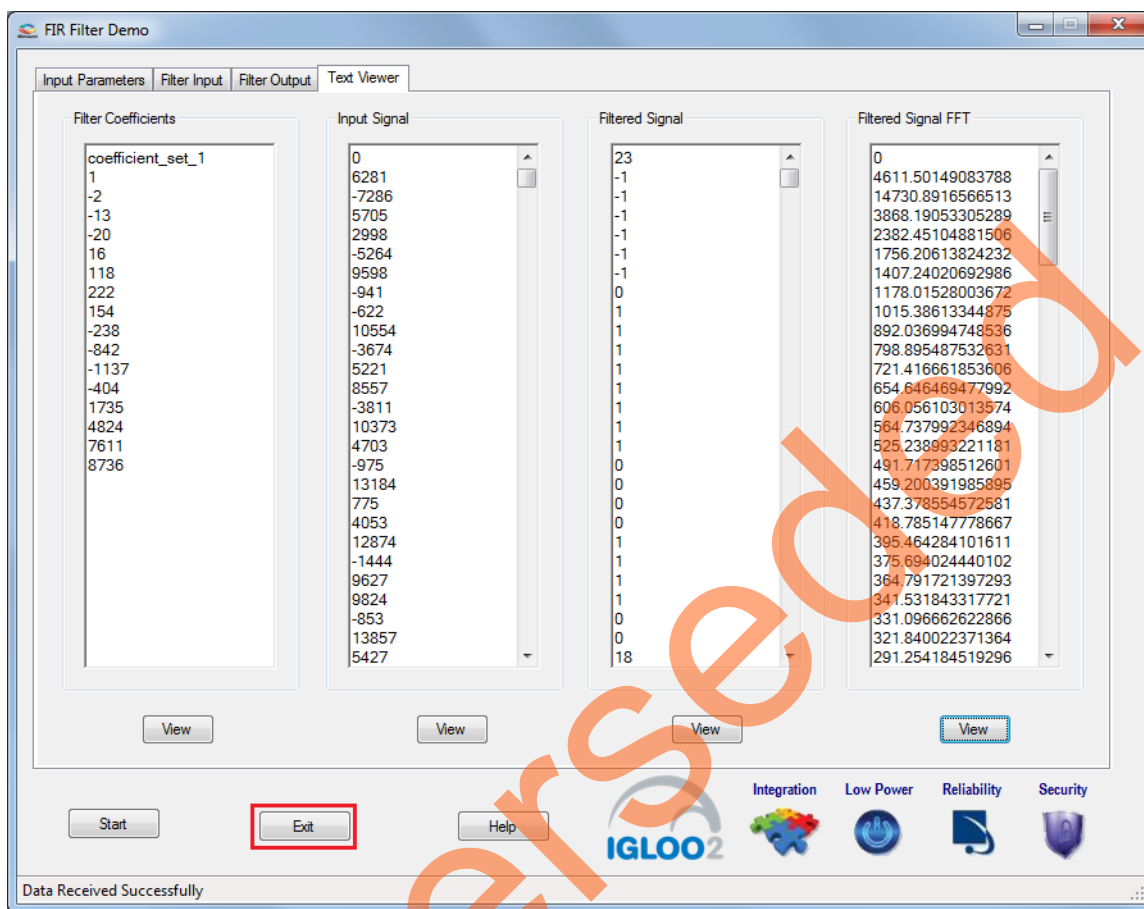

Figure 22 • FIR Filter Demo: Exit
11. Click **Exit** to stop the demo. Refer to Figure 22.